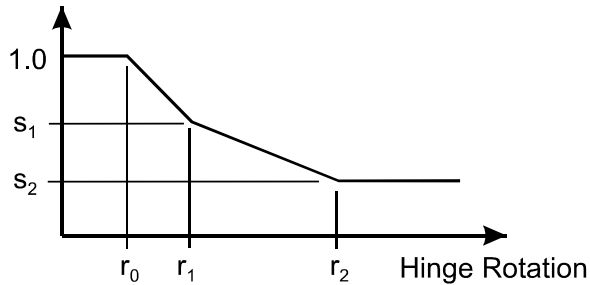

Figure 5.12 Effect of Rotation on Shear Strength
- (1) In the **Component Properties** task go to the **Strength Sections** page and the **V2-V3 Shear Strength Section** or **Shear Force Strength Section** type. Either start a new strength section or choose an existing one.
- (2) Go to the **Rotation Effect** page.
- (3) Choose the Option for Rotation Effect. The shear strength of a concrete section will usually have contributions from the concrete and the shear reinforcement. Choose whether hinge rotation affects only the concrete contribution (which is usually the case) or the total shear strength.
- (4) Figure 5.12 shows how the shear strength varies with hinge rotation. Specify the rotations  $r_0$ ,  $r_1$  and  $r_2$  (in radians) and the strength reduction factors  $s_1$  and  $s_2$ .
- (5) Specify the Axis 2 Rotation Factor. The default is 1.0, which means that the effective rotation of a P-M-M hinge in a column is the resultant rotation. If a given rotation about Axis 2 of a column causes a smaller shear strength reduction than the same rotation about Axis 3, specify an Axis 2 Rotation Factor larger than 1.0. The effective rotation is the resultant of (a) the Axis 3 rotation and (b) the Axis 2 rotation divided by the Rotation Factor. If an Axis 2 rotation causes a larger shear strength reduction, specify a Rotation Factor smaller than 1.0. This factor is not needed for a shear strength section in a beam.
- (6) Save the properties in the usual way.
The above steps and Figure 5.12 refer to hinge rotation. As noted in the next section, the rotation is not limited to the rotation of a plastic hinge component.